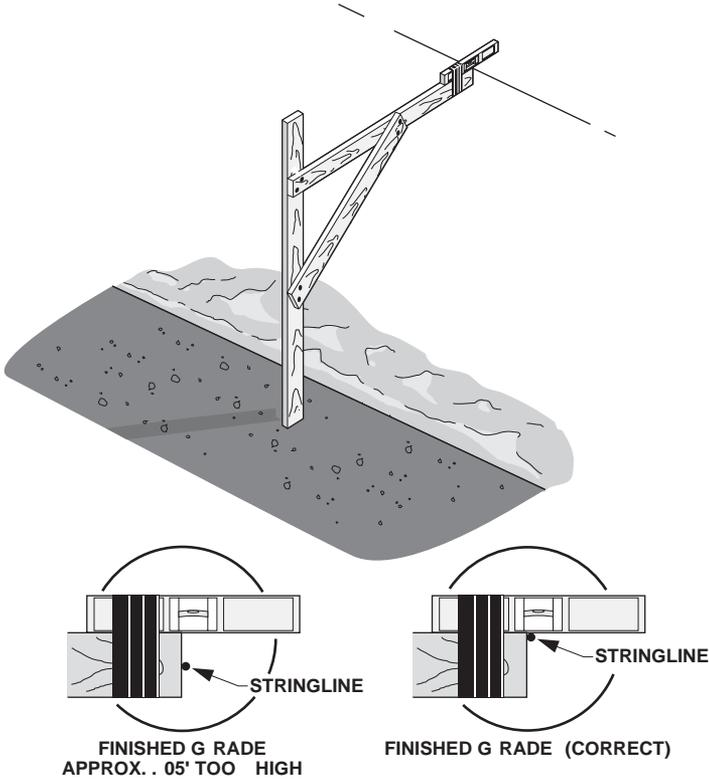

Figure 3-17. Check Finished Grade
- Set the Grade Checking Lath on the edge of the newly cut ground so the level bubble extends over the Sonic Stringline (Figure 3-17).
- Tilt the Grade Checking Lath to center the level bubble. Finished grade is correct if the level just touches the Sonic Stringline (Figure 3-17).